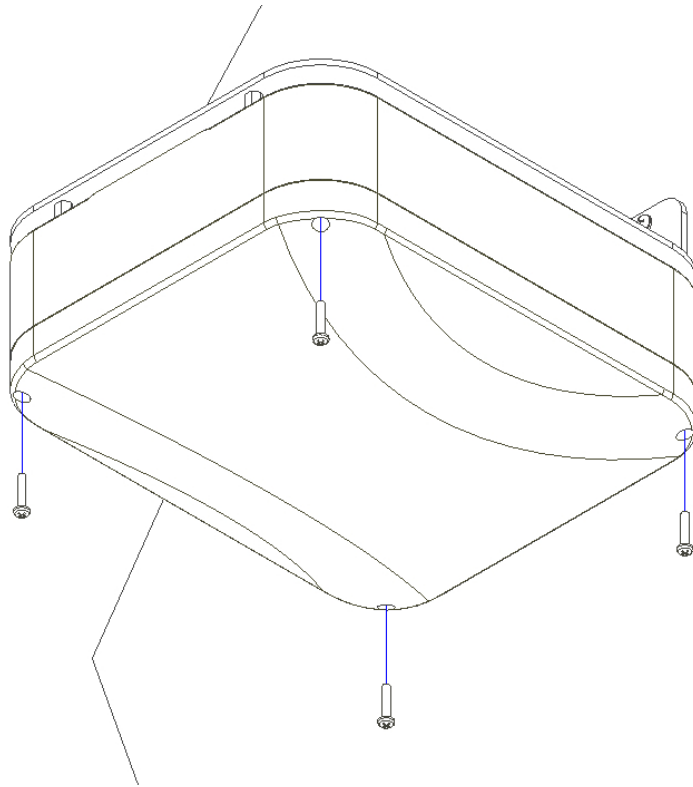

Figure 6
Step 6 – Place the lid on the base then secure it with the four (4) pan head machine screws provided with the enclosure (Figure 6). **The screws should be tightened to 8 in-lbs to properly seal the enclosure.** Do not over tighten. Make sure the gasket is properly seated prior to tightening